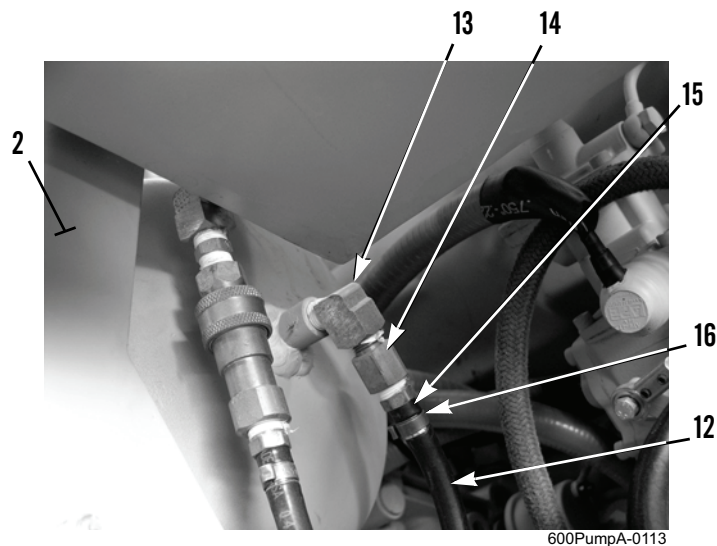

Figure 4. Pressure Gauge Hose and Inline Filter at Discharge Manifold.
6. Cut hose clamp (Figure 4, Item 16), hold pressure gauge hose (Figure 4, Item 12), and remove barb fitting (Figure 4, Item 15) and pressure gauge hose from inline filter (Figure 4, Item 14). Discard hose clamp.
7. Remove inline filter (Figure 4, Item 14) from elbow fitting (Figure 4, Item 13).
8. Remove elbow fitting (Figure 4, Item 13) from discharge manifold (Figure 4, Item 2).